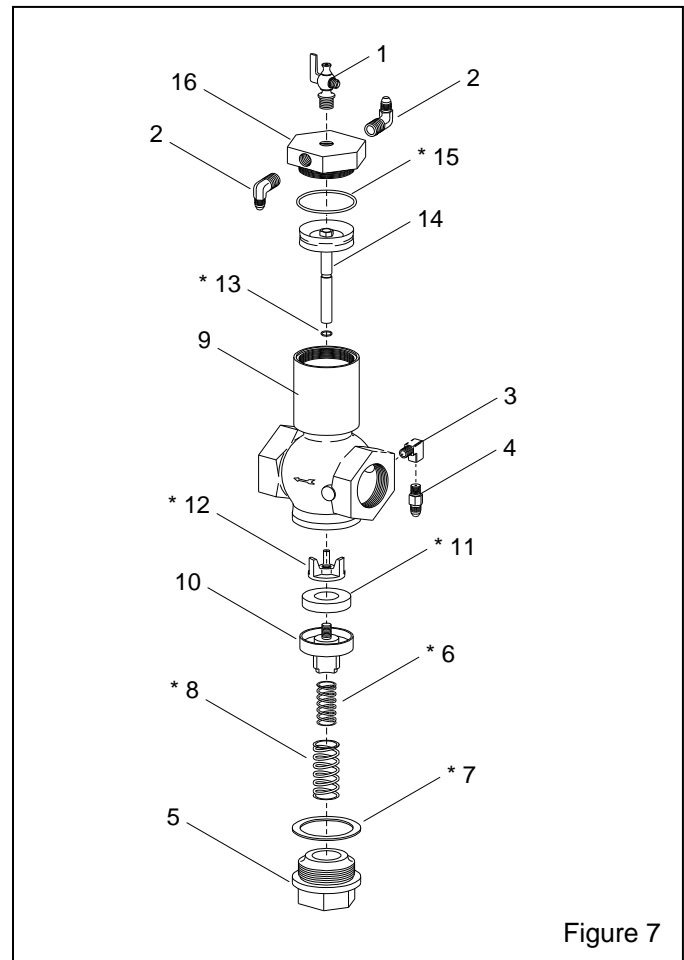

Figure 7
7.5 1-1/2" Inlet Valve, Figure 7